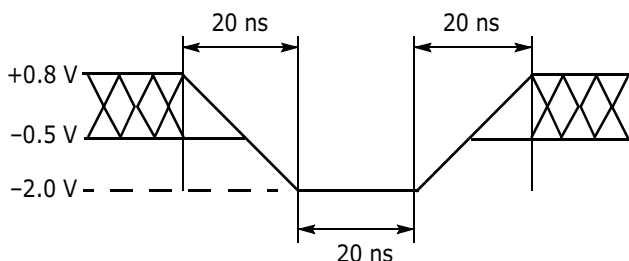
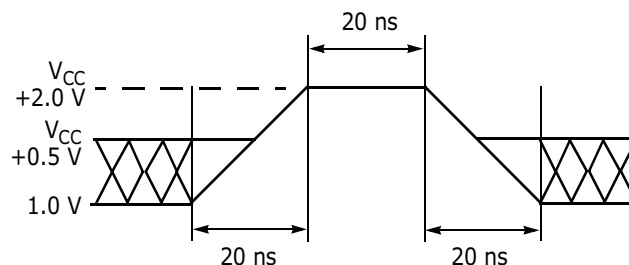

Figure 12.1 Maximum Negative Overshoot Waveform
Figure 12.2 Maximum Positive Overshoot Waveform
1. Minimum DC voltage on input or I/Os is -0.5 V. During voltage transitions, inputs or I/Os may undershoot V_{SS} to -2.0 V for periods of up to 20 ns. See Figure 12.1. Maximum DC voltage on input or I/Os is $V_{CC} + 0.5$ V. During voltage transitions outputs may overshoot to $V_{CC} + 2.0$ V for periods up to 20 ns. See Figure 12.2.
2. Minimum DC input voltage on pin ACC is -0.5V. During voltage transitions, ACC may overshoot V_{SS} to -2.0 V for periods of up to 20 ns. See Figure 12.1. Maximum DC voltage on pin ACC is +9.5 V, which may overshoot to 10.5 V for periods up to 20 ns.